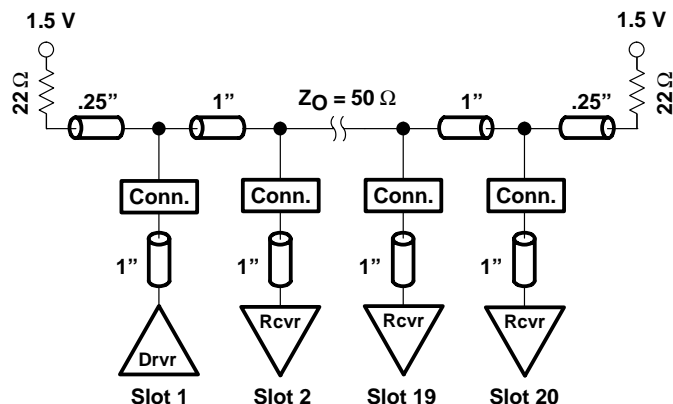
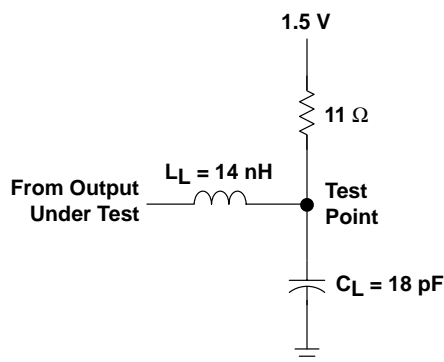

Figure 2. High-Drive Test Backplane
Figure 3. High-Drive RLC Network
The preceding switching characteristics table shows the switching characteristics of the device into a lumped load (Figure 1). However, the designer's backplane application is probably a distributed load. The physical representation is shown in Figure 2. This backplane, or distributed load, can be approximated closely to a resistor inductance capacitance (RLC) circuit, as shown in Figure 3. This device has been designed for optimum performance in this RLC circuit. The following switching characteristics table shows the switching characteristics of the device into the RLC load, to help the designer to better understand the performance of the GTLP device in this typical backplane. See [www.ti.com/sc/gtlp](http://www.ti.com/sc/gtlp) for more information.
**switching characteristics over recommended operating conditions for the bus transceiver function (unless otherwise noted) (see Figure 3)**